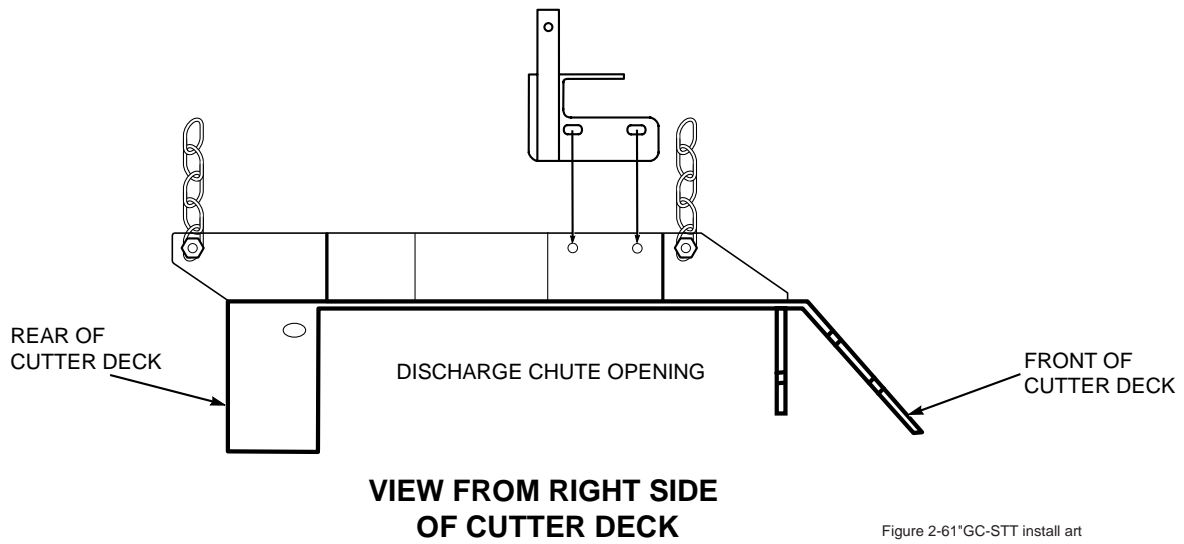

FIGURE 4-3
6. Install the blower mounting bracket to the deck using 1/2-13 x 1-1/2" hex head bolts (p/n 04001-71), 1/2" spring lockwashers (p/n 04030-06), and 1/2-13 elastic stop nuts (p/n 04021-07). See Figure 4-3, Page 8. Do not fully tighten the hardware at this time.